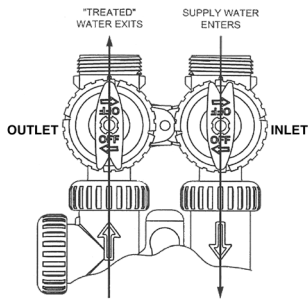

FIG. 2
- 2. Bypass Position**— The inlet and outlet handles point towards each other. This isolates the control valve from the water pressure contained in the plumbing system. Any water drawn from the building while the system is in this position will receive untreated water directly from the source. (See Fig. 2)
- 1. Flush System—** After installation is complete, rotate the bypass valve handles to the bypass position shown in **Fig. 2** on page 4. With water pressure turned on, open a cold water faucet and allow water to clear pipes of debris which may occur during installation. Close cold water faucet.